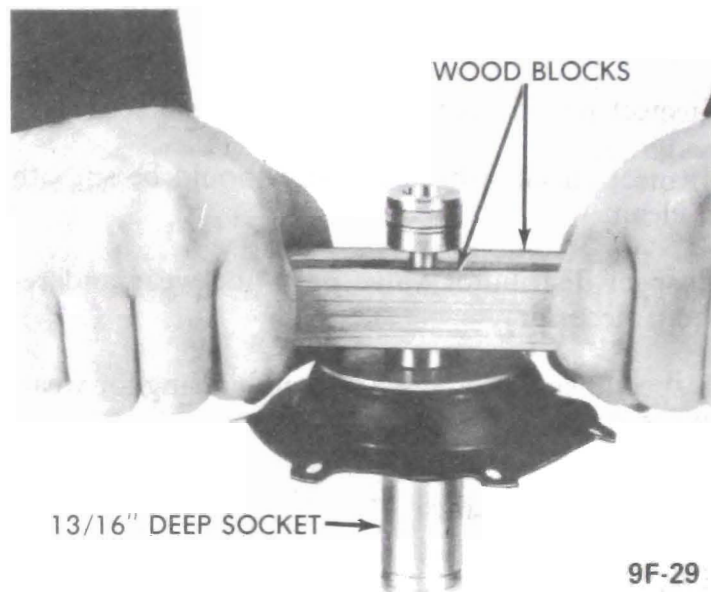

Figure 9F-39 - Installing Diaphragm Retainer
1. Install new corprene washer, old plate (unless damaged), new diaphragm (with outer lip toward second stage end of piston) and second plate. See Figure 9F-39.